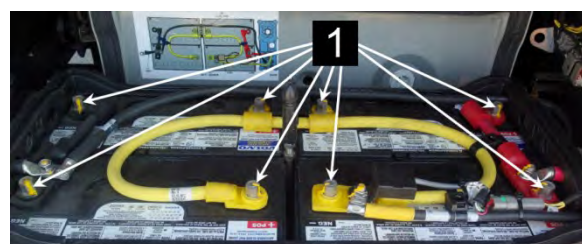

FIGURE 42: INSTALL THE BATTERY CABLE LUGS
5. Connect the battery cables. Tighten the cable terminal (item 1, **Figure 42**) nuts to the following torque: